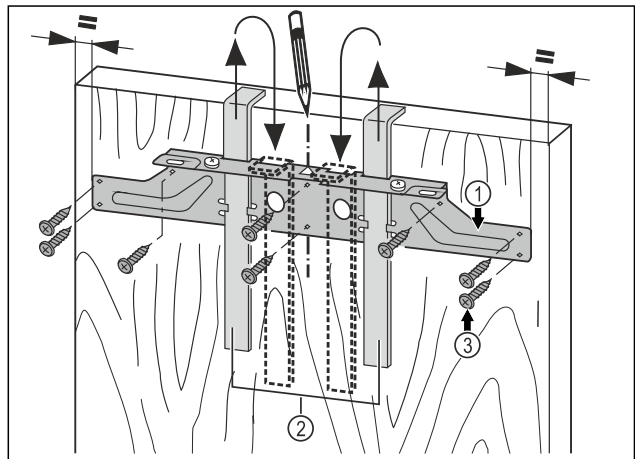

Fig. 44
- ▶ Hang the fastening bar Fig. 44 (1) with the mounting aids on the inside of the unit door Fig. 44 (2).
- ▶ Align the fastening bar Fig. 44 (1) in the centre of the door.
- ▶ Tighten the mounting bar Fig. 44 (1) with at least 6 screws Fig. 44 (3).
- ▶ Screw the mounting bar Fig. 44 (1) to the edge with 4 screws Fig. 44 (3).
- ▶ Pull the assembly devices Fig. 44 (2) upwards and push them, at an angle, into the receiving openings.